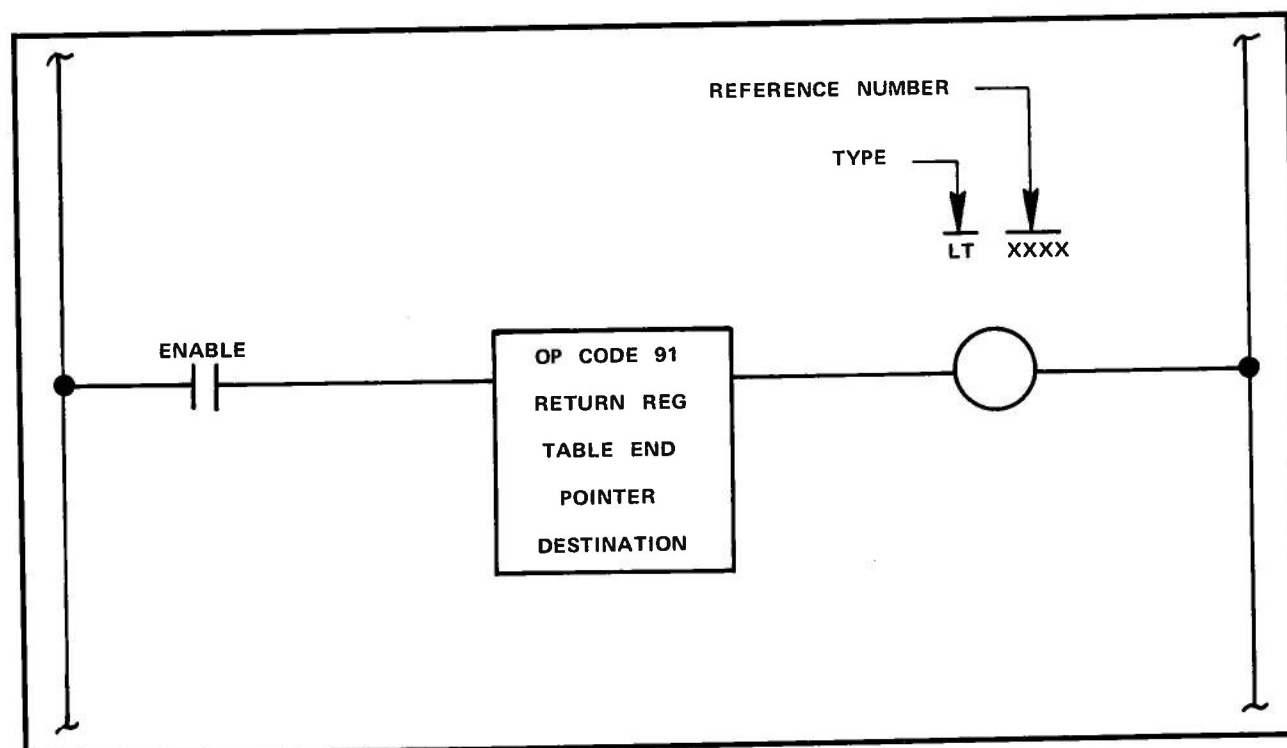

Figure 1. ASCII Transmit (AT)
The ASCII Transmit (AT) function allows American National Standard Code for Information Interchange (ASCII) coded alphanumeric messages to be processed. These messages are transmitted from the processor directly to a printer or other suitable RS-232C compatible device that is capable of translating ASCII codes. If the processor is equipped with two ports, the function permits port selection. ASCII function symbology is shown in Figure 1.